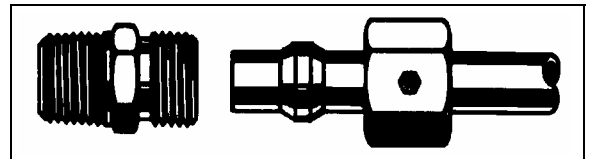

FIGURE 49: HOSE FITTING
**Compression:** Tighten nut by hand (Fig. 49). From that point, tighten using a wrench the number of turns indicated in the chart hereafter.